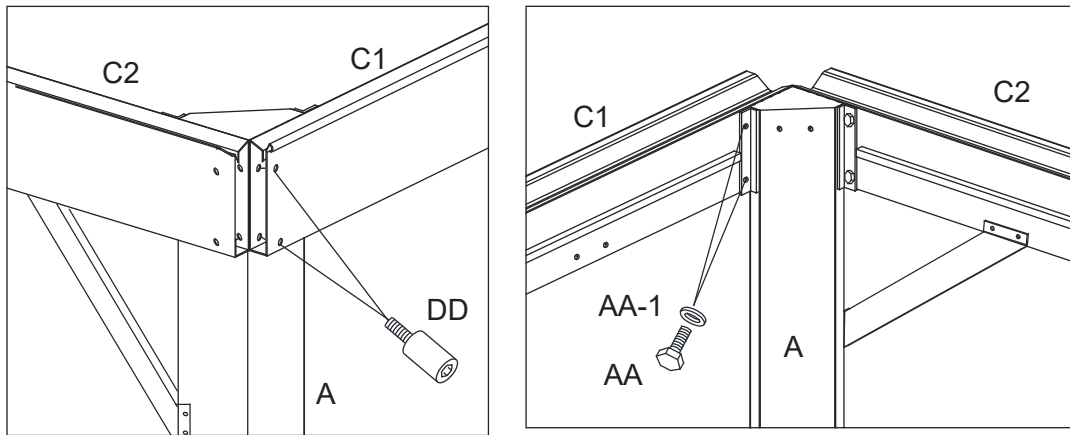

Figure 4-1
4.1. Attach Lintel (C1 and C2) to Corner Posts (A) first with Bolts (AA) and Steel washer (AA-1) then with Bolts (DD). Tighten Bolts. Repeat for opposite side Lintels (C1 and C2). Tighten all Bolts. See Figure 4-1.